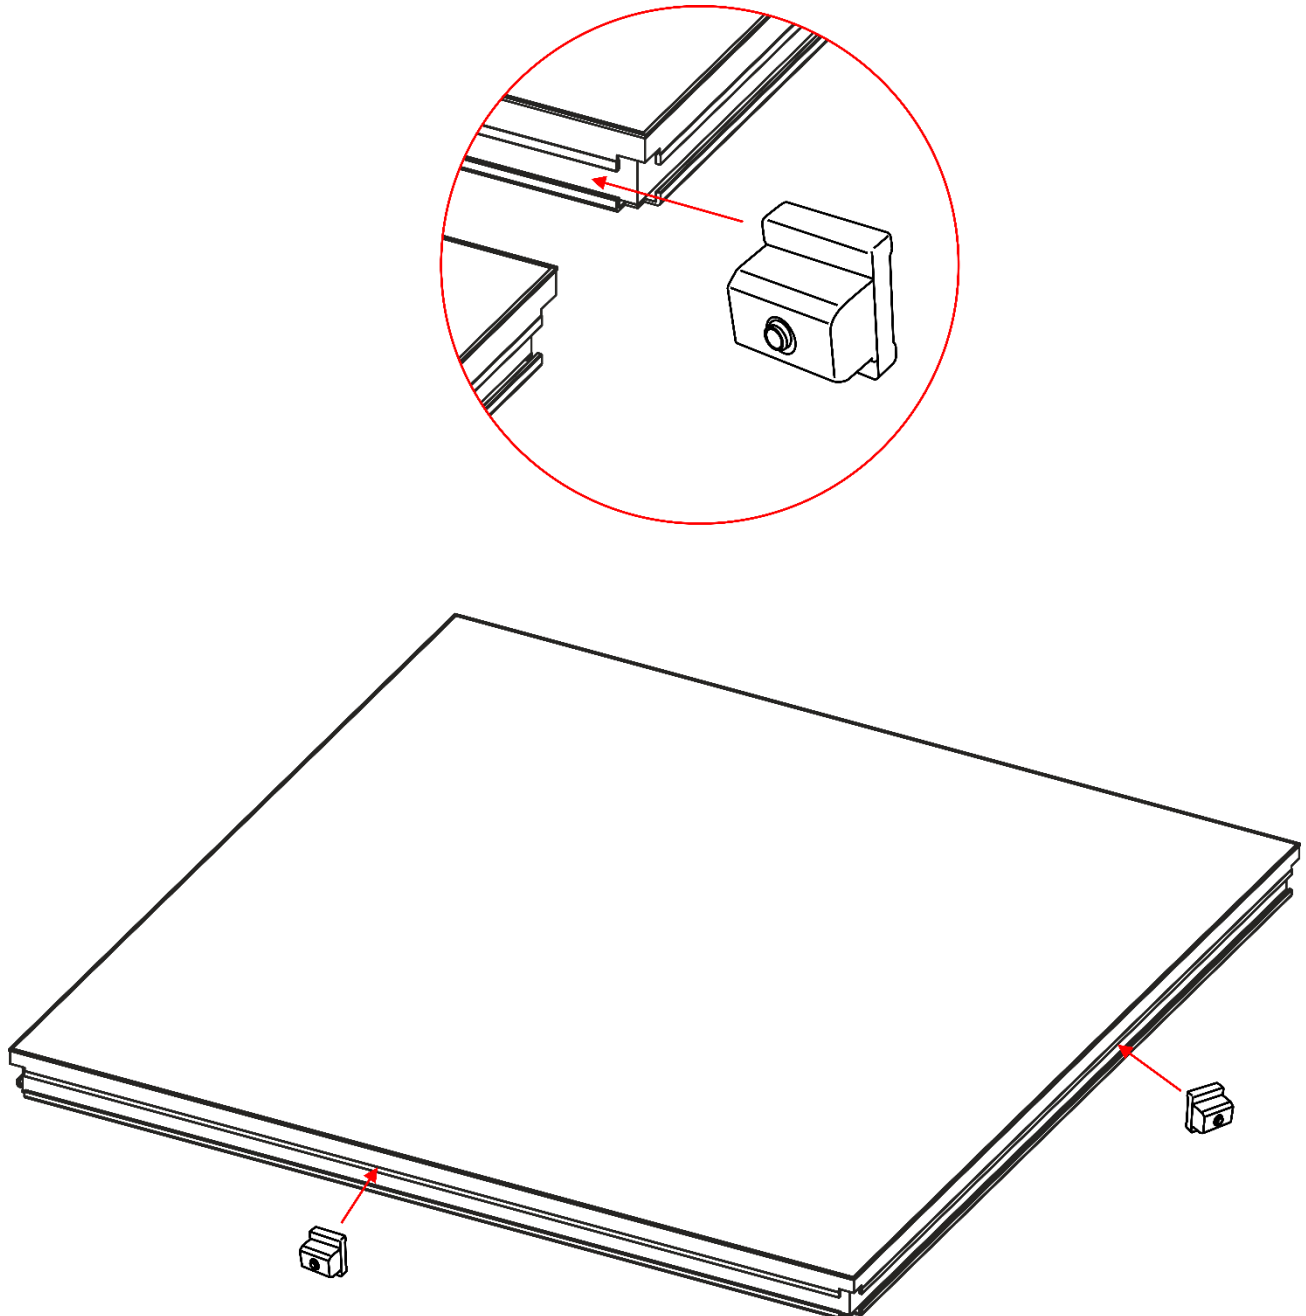

Fig. 04
- 02) In order to level the two sets, insert the Mammoth Stage Self-leveling Insert (70637) in between the two stage decks, in the center of the profile (see fig. 04).